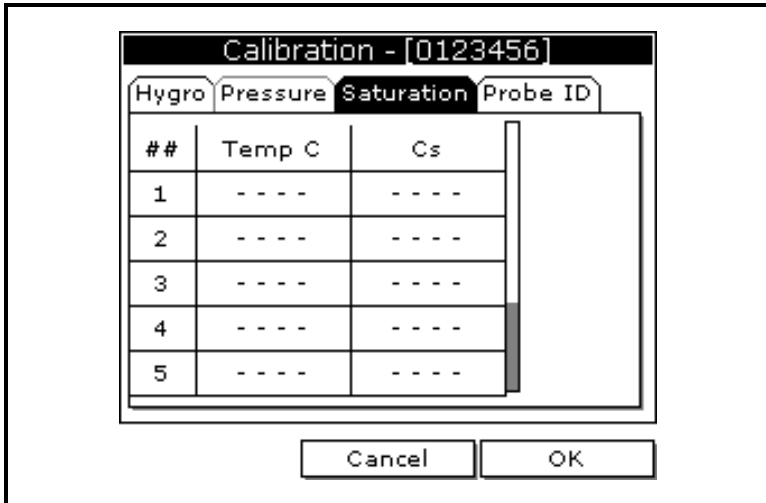

Figure 4-5: The Saturation Window
4. Use the arrow key to scroll to **Saturation** tab and press [ENTER]. A screen similar to Figure 4-5 below appears.